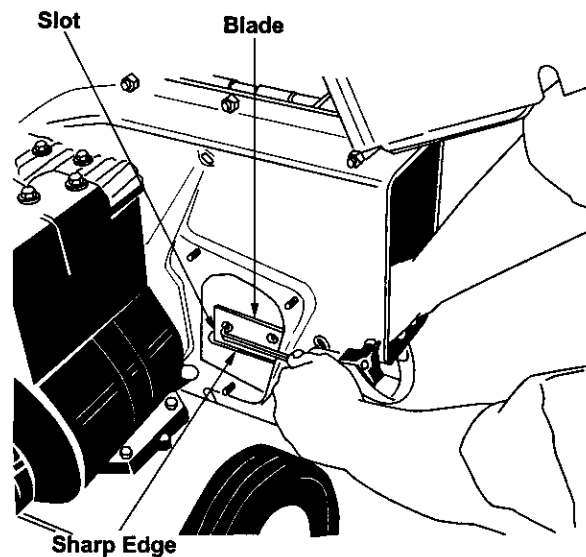

Figure 18
- Rotate the impeller assembly by hand until you locate one of the two chipper blades in the chipper chute opening. Remove the blade, using a 3/16" allen wrench on the outside of the blade and 1/2" wrench on the impeller assembly (inside the housing). See figure 18.
- Reassemble in reverse order. Make certain blades are reassembled with the sharp edge facing the direction shown in figure 18 (sharp edge is assembled toward the slotted opening at the bottom).